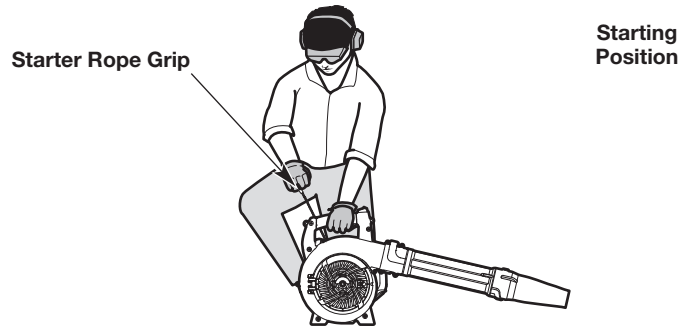

Fig. 13
WARNING: Avoid accidentally starting the unit. To avoid serious injury, the operator and the unit must be in a stable position when pulling the starter rope (Fig. 13).
4. Crouch in the starting position (Fig. 13).